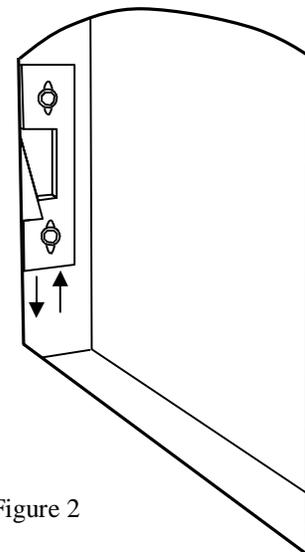

Figure 2
5. Tighten the bolts on the wedge assembly snug. Do not over tighten. (figure 2)